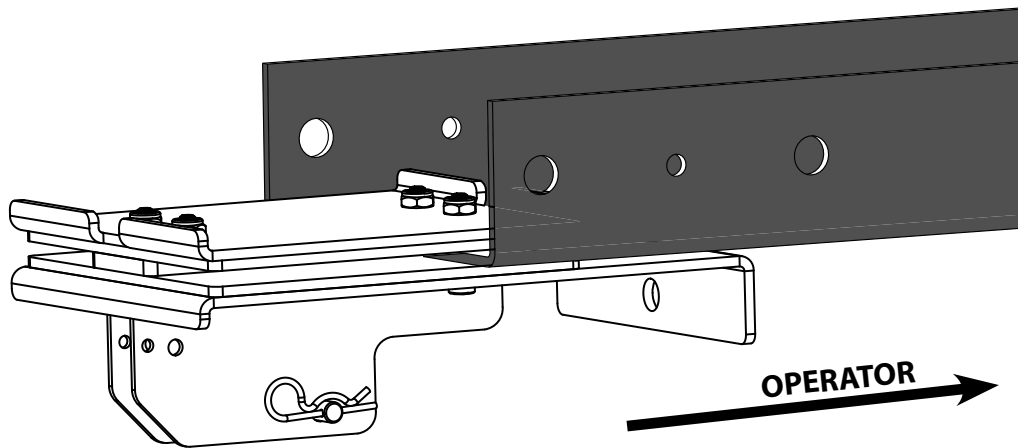

FIG. 3
3. Insert the carriage into the tracks as shown in FIG. 3.